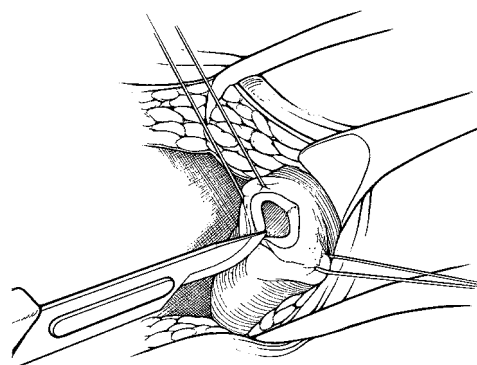

Figure 4-4. Make Corporotomy
6. Make an incision into one of the corpora cavernosa (**Figure 4-4**).